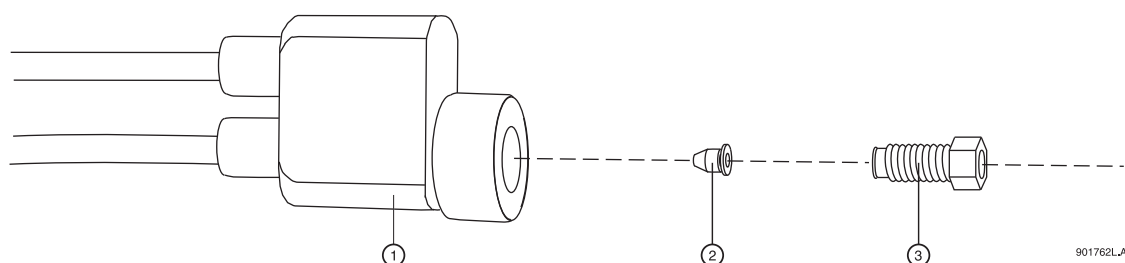

Figure 5.6 Capillary Adapter Block Assembly
4. Loosen but do not remove the nut (see Figure 5.6). Remove the nut only to install a new seal (which is not normally replaced when rebuilding an EDA assembly). If a seal must be replaced, remove the nut then remove the old seal before installing the capillary. The new seal will be installed in step 11.
11. Push the seal down the length of the capillary and into the capillary adapter body (see Figure 5.6). Re-install the nut (PN 144817).
4. Loosen but do not remove the nut. Refer to Figure 5.6.